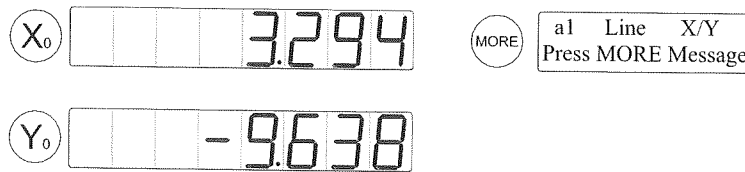

Figure 2-73
- c. Press the  or  key, until the displays the feature a1's message as in figure 2-73 Press the